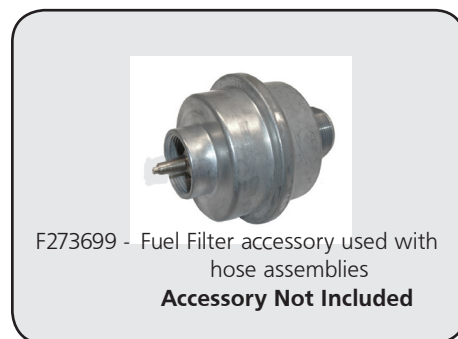

Figure 3
NOTE: THIS HEATER MAY BE OPERATED WITH (1) OR (2) DISPOSABLE 1 LB. PROPANE CYLINDERS OR WITH A REMOTE REFILLABLE CYLINDER(S) MAX. 20 LBS USING (1) OR (2) F273701, F273702 OR F272702 HOSE ASSEMBLIES WITH FUEL FILTERS (F273699) (Figure 3) ON EACH HOSE ASSEMBLY. HOSE NO. F273704 BUDDY SERIES HOSE, FUEL FILTER NOT REQUIRED. IT MAY ALSO BE OPERATED WITH (1) F271802 HOSE ASSEMBLY CONNECTED TO A REGULATED (11" W.C.) PROPANE SOURCE "FILTER NOT REQUIRED" OR (1) F271803 HOSE ASSEMBLY WITH 11" REGULATOR WITH ACME NUT "FILTER NOT REQUIRED".